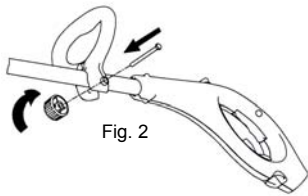

Fig. 2
6. Screw in the locking nut into the bolt. Do not over tighten the bolt. (Fig. 2)